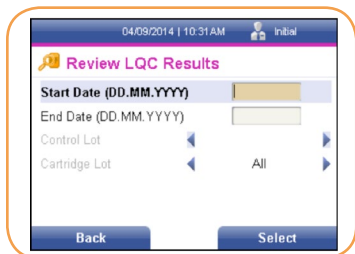

FIGURE 77
- Using the [↓] key, cursor to the Liquid QC Results text field, then press the right soft key to select it. The *Review LQC Results* screen is displayed (Figure 77).